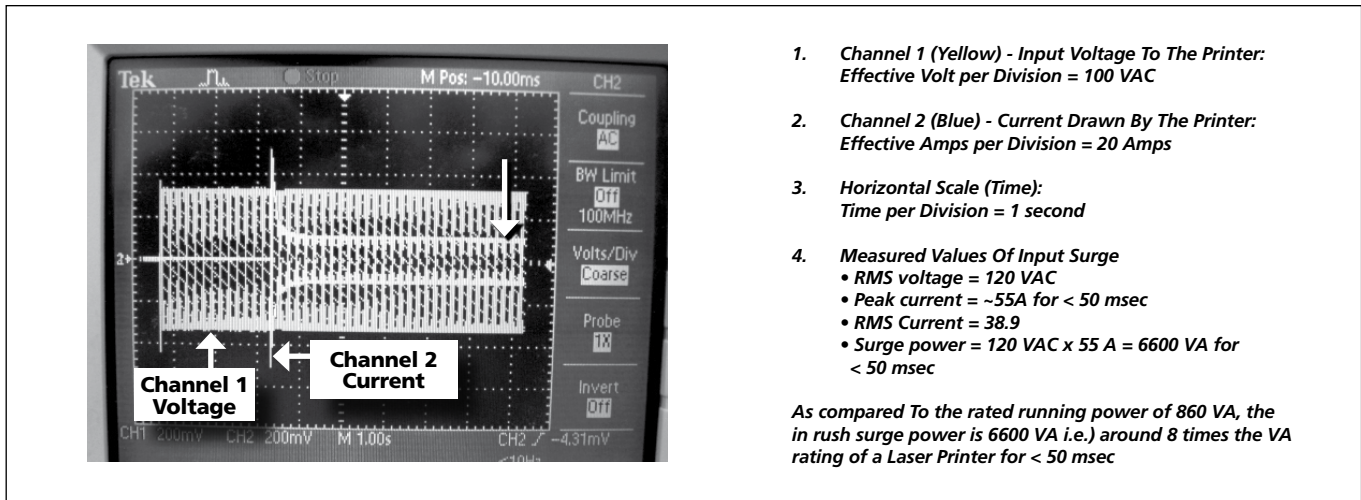

Fig 1: Very high inrush current on start up in a 860 VA Laser Printer
- **For powering Laser Printers and laboratory equipment using Quartz lamps, the Surge Power rating of the inverter should be at least 8 times the Watt / VA rating of the Laser Printer / laboratory equipment.** Laser Printers and laboratory equipment use Switched Mode Power Supplies (SMPS) and motors that require additional surge power to start. Hence, for these devices, the inverter has to be oversized additionally. **Fig. 1 shows a screen shot of oscilloscope with a recording of 6600 VA inrush power for a Laser Printer rated at 860 VA**